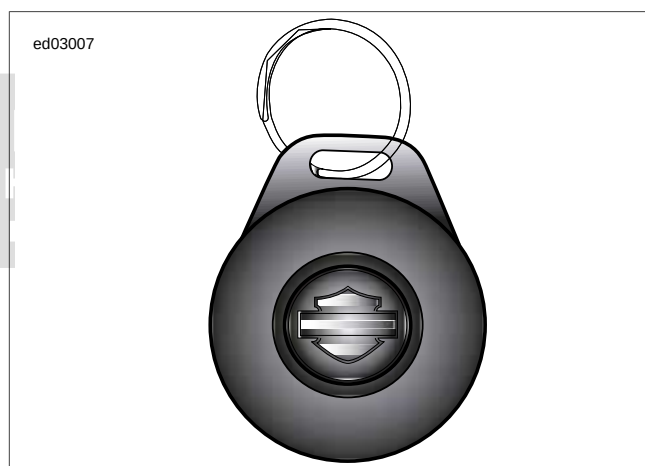

Figure E-3. Key Fob: TSSM
- **Remote arming/disarming:** See Figure E-3. Owners may enable and disable security alarm and immobilization functions with a personally carried transmitter. This transmitter is referred to as a **key fob**. Remote arming/disarming is a function of the TSSM (Japan/Korea) only.